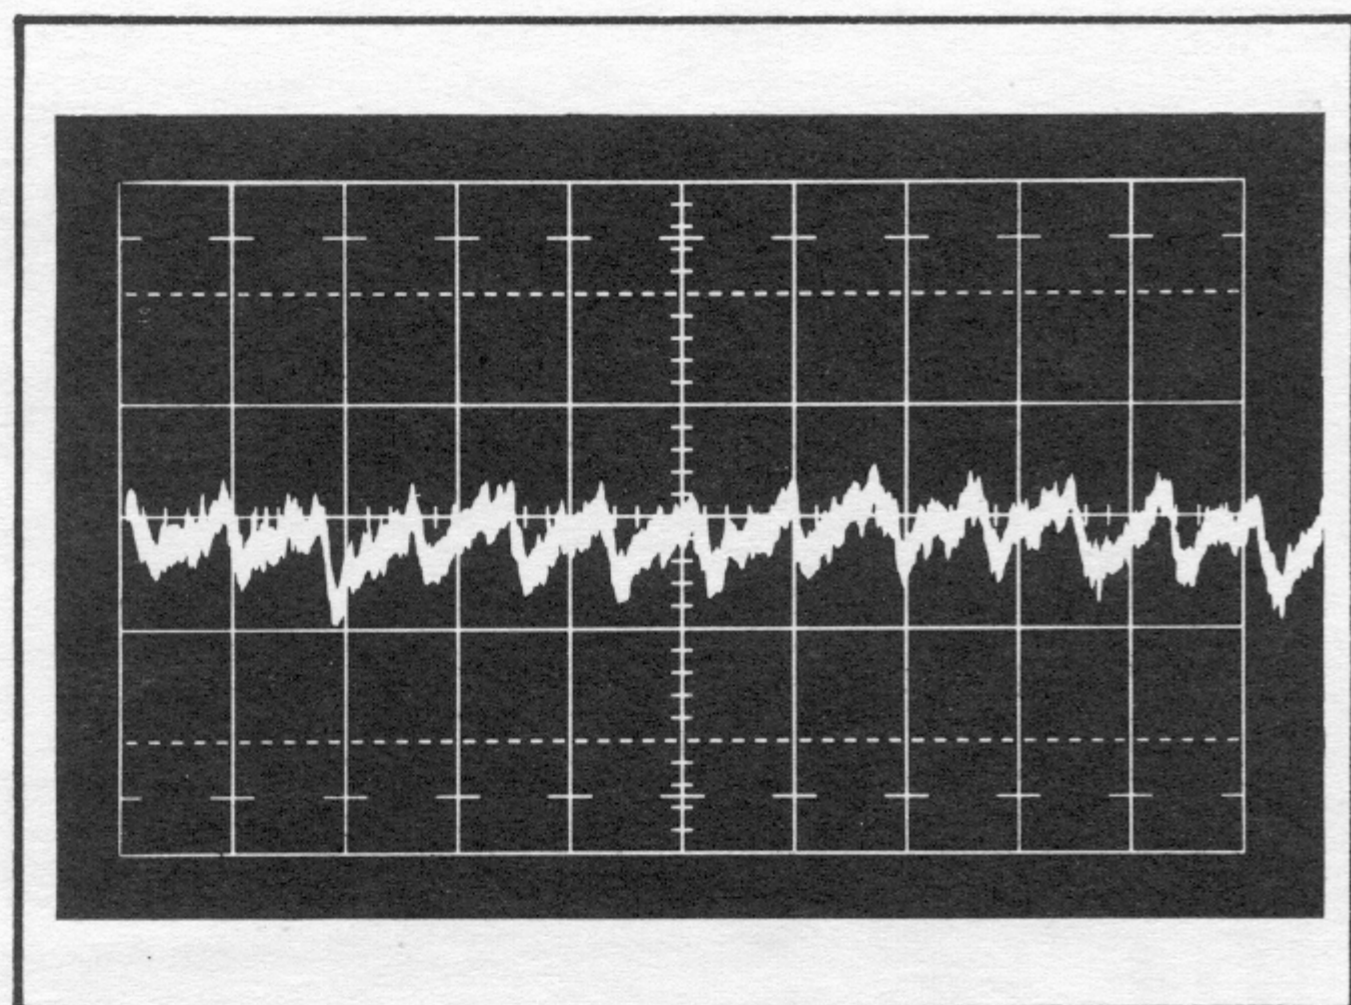

Fig. 6-5. Typical test oscilloscope display of the +300-volt power supply ripple.
- d. Check—Maximum ripple should not exceed that indicated in Table 6-1. Typical ripple on the +300-volt power supply is shown in Fig. 6-5.